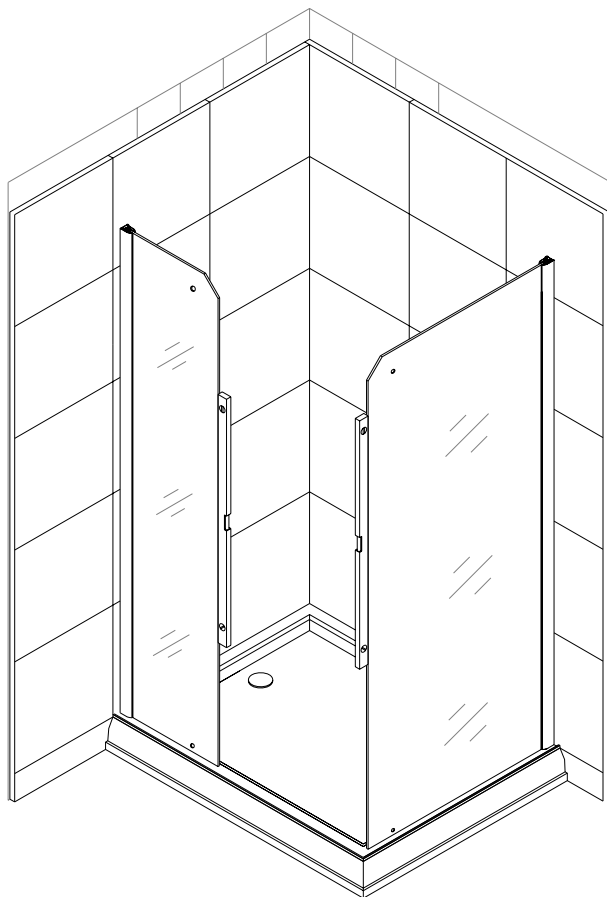

Fig 3
4. Repeat step 1-3 to install another side wall profile and **Wide Stationary Glass Panel (3)**. You need to install profile 34" OR 36 7/8" OR 44 7/8" (refer to Diagram 1) from the corner depending on the size of your shower. Check, if the stationary glass panels installed vertical in both directions (fig 3).